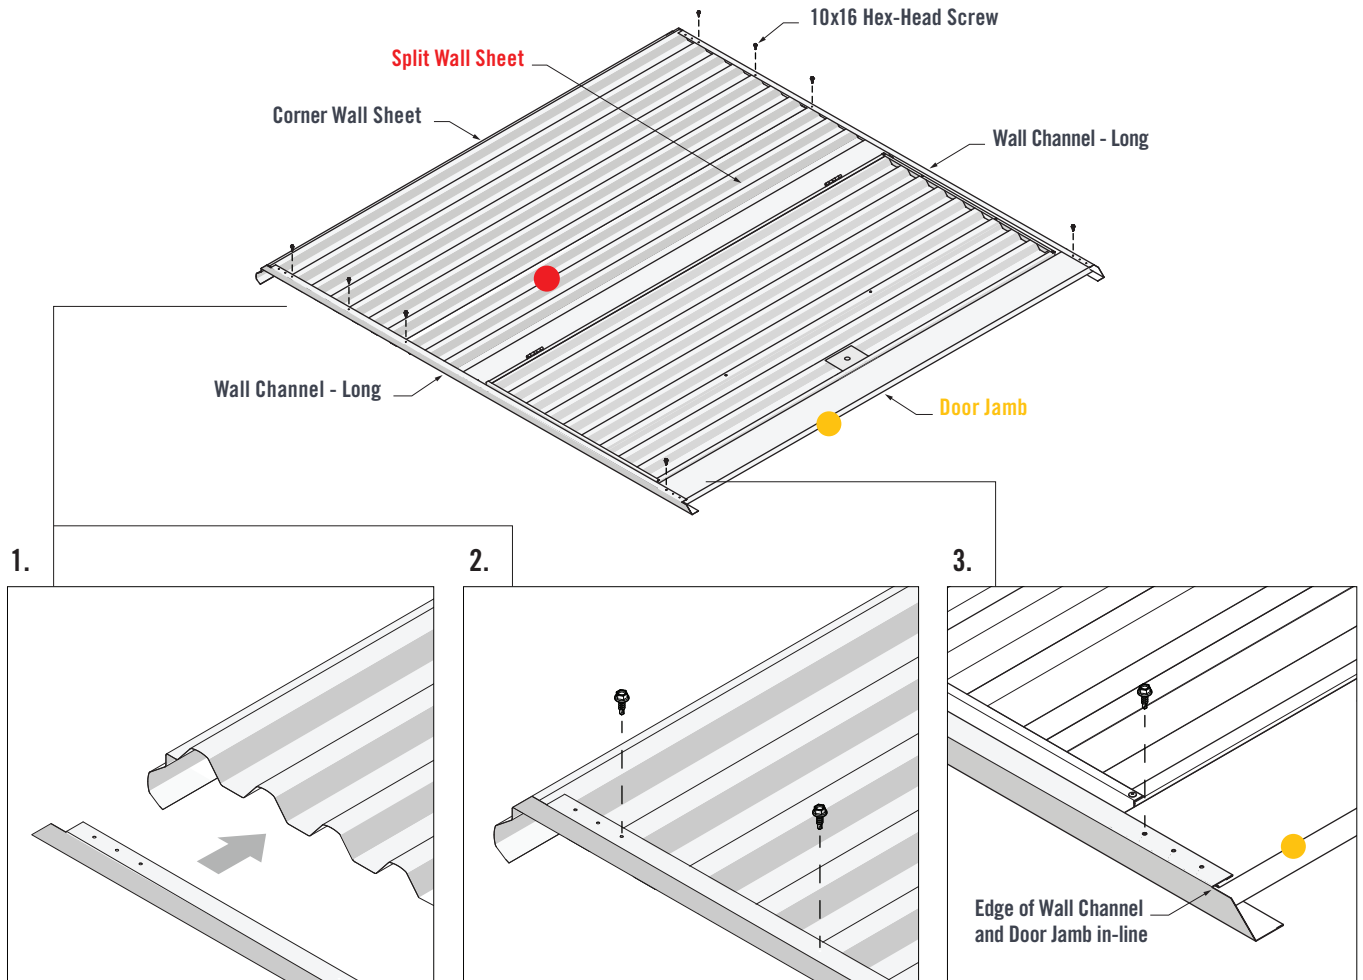

FIGURE 3.2
1. Fit both Wall Channels (Long) over the lapped Wall Sheets and Door Jambs. The end of the Wall Channels should fit up against the end of the Corner Wall Sheet (Figure 3.2).
2. Fasten one 10x16 Hex-Head Screw through the third pilot hole of the bottom and top Wall Channels and into the Corner Wall Sheet crest. Fasten two 10x16 Hex-Head Screws through the bottom and top Wall Channels and into the third Wall Sheet crests (Figure 3.2).
3. Ensure the edge of the Wall Channels and Door Jamb are in-line. Fasten one 10x16 Hex-Head Screw through the third pilot hole of the bottom and top Wall Channels and into the Door Jamb (Figure 3.2).